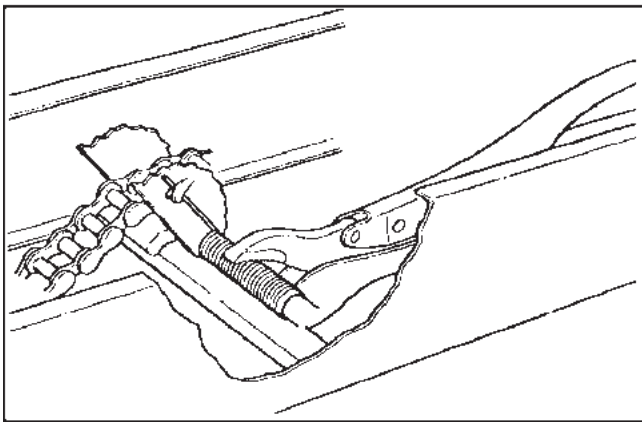

Figure 7-4. Securing tensioner cam
3. Turn the tensioner cam assembly in the direction which winds up the torsion spring and push the assembly down as close as possible to the cam follower block in the bottom of the frame. Secure it in this position with a Vice-Grip 10CR as illustrated in Figure 7-4.